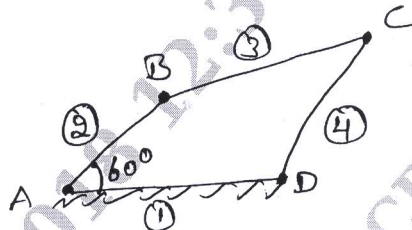

Fig Q4
- 4 A pin jointed 4 bar mechanism ABCD show Fig Q4. Link AB = 150mm, BC = 180mm, CD = 180mm and fixed link AD = 300mm. Link AB makes 60° with link AD, and rotates uniformly at 100 rpm. Locate all the instantaneous centres and find the angular velocity of link BC and linear velocity of link CD.